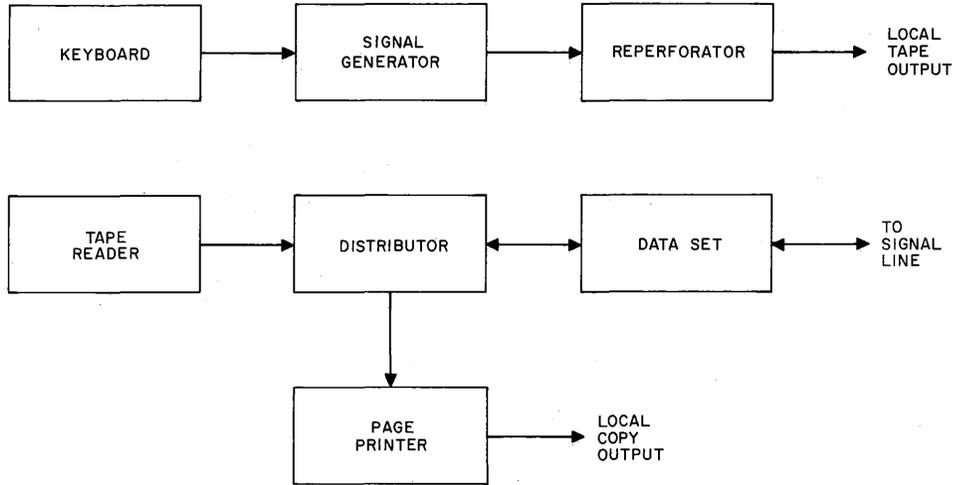

Fig. 8—T Mode
(3) T—Tape—This mode allows traffic to be received via the page printer while allowing simultaneous preparation of tape. See Fig. 8.